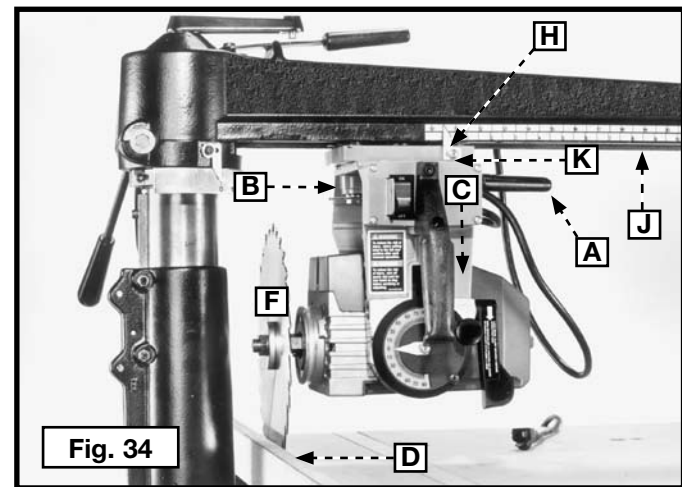

Fig. 34
- Loosen the yoke clamp handle (A) Fig. 34. Release the yoke index by pressing the release lever (B) up or down. Rotate the cuttinghead (C) to the in-rip position (Fig. 34). Tighten yoke clamp handle (A).
- Position the fence (D) Fig. 34 at the rear of the table.
- Loosen the cuttinghead clamp knob (C) Fig. 34. Slide the cuttinghead to the rear of the track arm until the saw blade (F) is flush against the fence (D).
- Tighten the cuttinghead clamp knob. Adjust the pointer (H) Fig. 34 to the “zero” mark on the lower scale (J) by loosening the screw (K). Tighten the screw when finished.